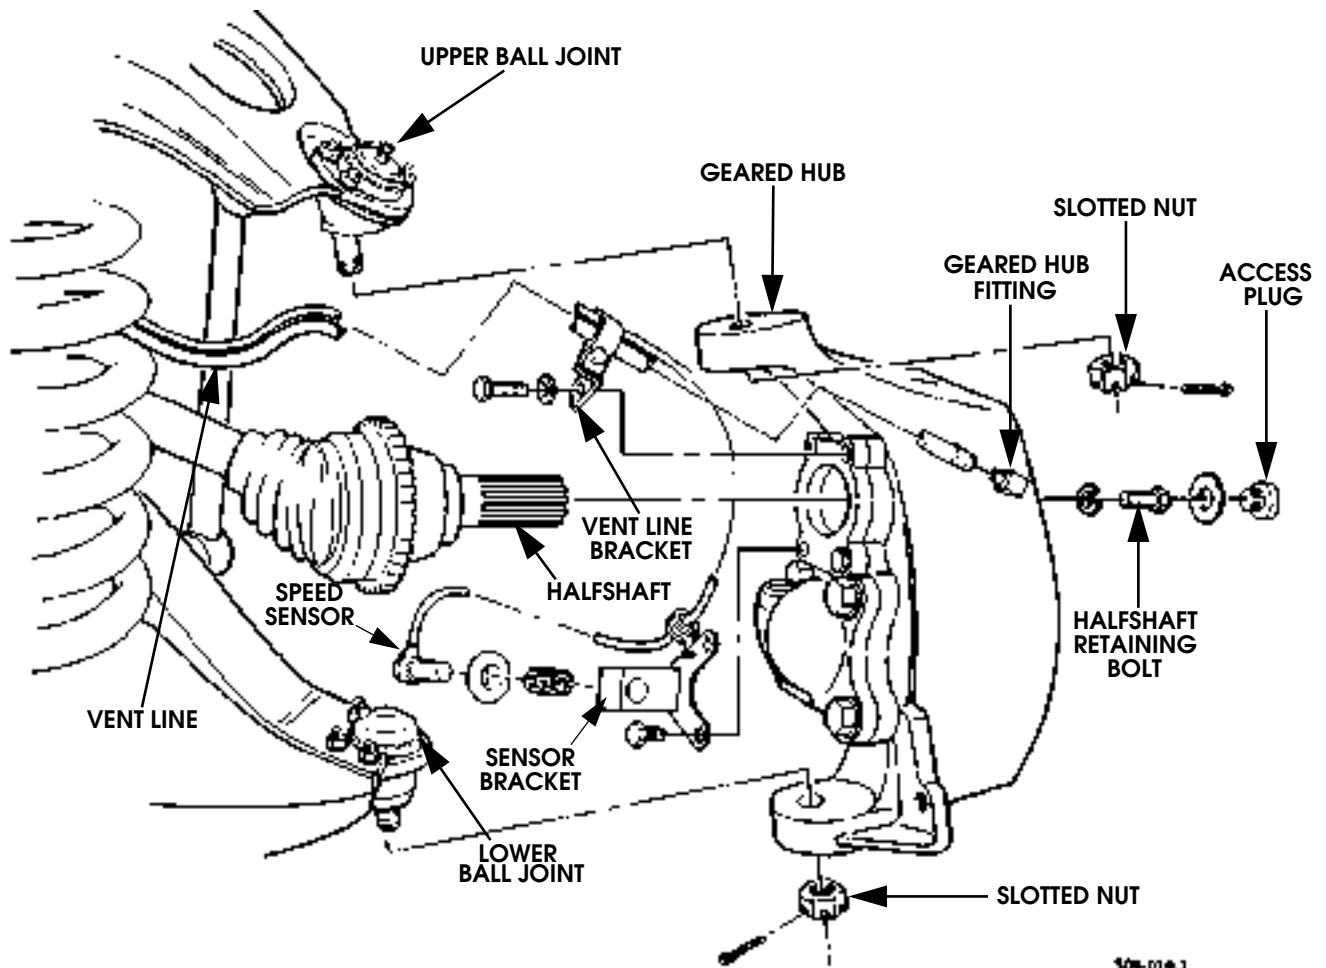

Figure 9-15: Geared Hub Replacement
4. Remove bolt, washer, and vent line/speed sensor lead bracket from geared hub (Figure 9-15).
9. Remove access plug, washer, halfshaft retaining bolt, lockwasher, and halfshaft from geared hub (Figure 9-15).
1. Position geared hub between upper and lower control arms and secure upper ball joint to geared hub with slotted nut, but do not tighten (Figure 9-15).
2. Remove access plug and washer from geared hub (Figure 9-15).